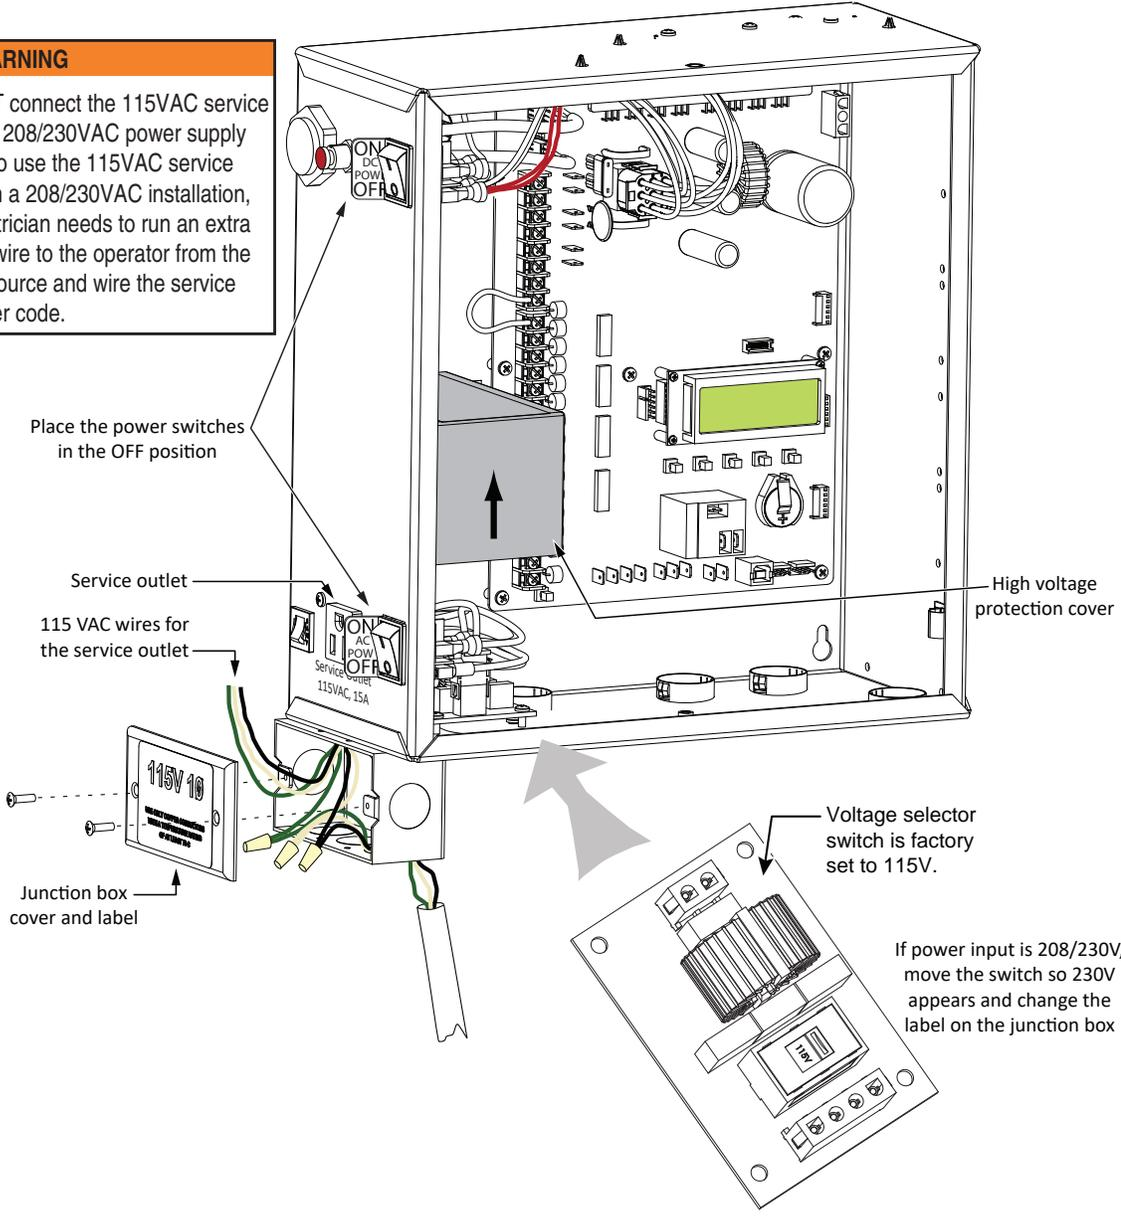

Figure 22. Wiring AC Power
Turn off AC power at the source (circuit breaker panel) before accessing the wires in the SlideSmart junction box. Follow facility Lock Out/Tag Out procedures. Make sure both the DC and AC power switches, on the side of the SlideSmart control box are in the off position. See Figure 22.
Wiring of gate operators must conform to the NEC standards and comply with all local codes. If you plan to connect to 208/230VAC power, read the WARNING in Figure 22. The voltage selector switch on the AC Power board must be moved to the 230V position or damage to the operator will occur and void the Limited Warranty.
2. Access the input power wires and service outlet wires by removing the two Phillips-head screws that secure the high voltage junction box cover. See Figure 22.
3. Wire nut or crimp bond the power supply wires to the black and white lead wires coming from the AC power switch (no label). See Figure 22.
2. Remove the High Voltage Protection cover by unscrewing the two Phillips-head screws that secure it. See Figure 22.
4. Access the input power wires by removing the two Phillips-head screws that secure the High Voltage Junction Box Cover. See Figure 22.